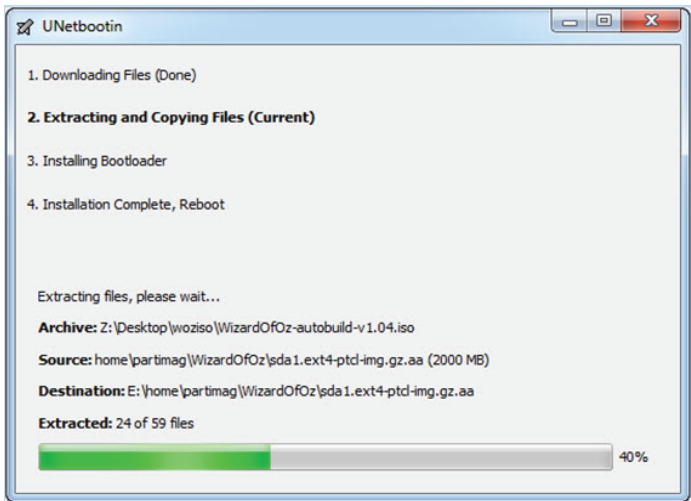

Figure E9. UNETBOOTIN copy/burn progress window.
6) Throughout the ISO image copy/burn process, the window in figure E9 will be displayed and updated.